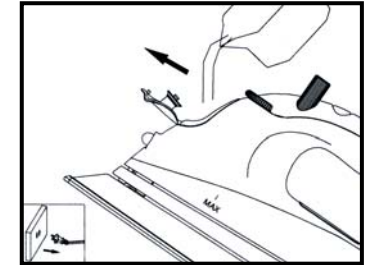

Fig. 1
1. Open the water filling inlet cover. Holding the iron at a slight angle, pour water slowly into the water filling inlet (see figure 1). Fill tank to desired level or to the "MAX" water level marking using the water filling flask (when the iron is upright, the see-through water tank allows you to gauge the amount of water). **DO NOT** overfill the tank. When finished filling the iron with water, close the water inlet cover before continuing.